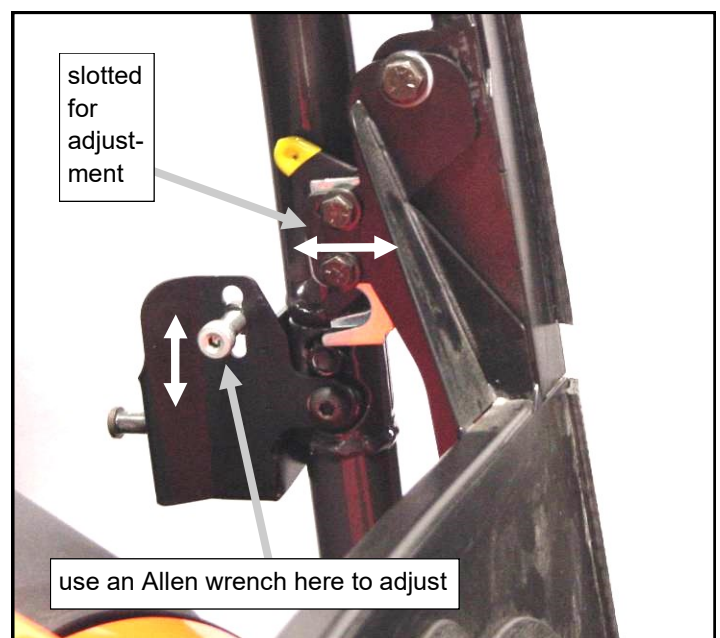

Fig. 3.3 (view from inside of driver's side)
3.3 Three areas are adjustable if a better seal is desired. First be sure that the upper pins are seated at the bottom of the receiving slots in the upper mounts before beginning any adjustments. The lower latches have adjustment in and out (see fig. 3.3). The lower pins on the front mounts have adjustment up and down. The upper pins have adjustment in all directions due to an oversized hole. Make the necessary adjustments until you achieve "double click" engagement. If the issue is with the seal against the ROPS tubing, adjust the lower latches in or out. If the issue is with the seal against the hood, adjust the pins up or down.